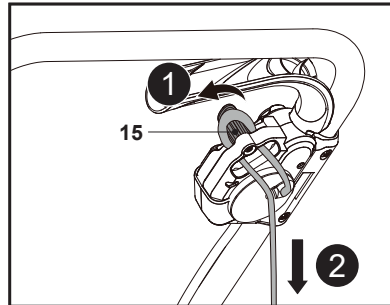

Fig. 10
1. Make a loop in the power cord and hang the loop onto the cord strain relief (15) (Fig. 10, step 1).
2. Gently tug on the power cord to ensure that it is firmly secured (Fig. 10, step 2).